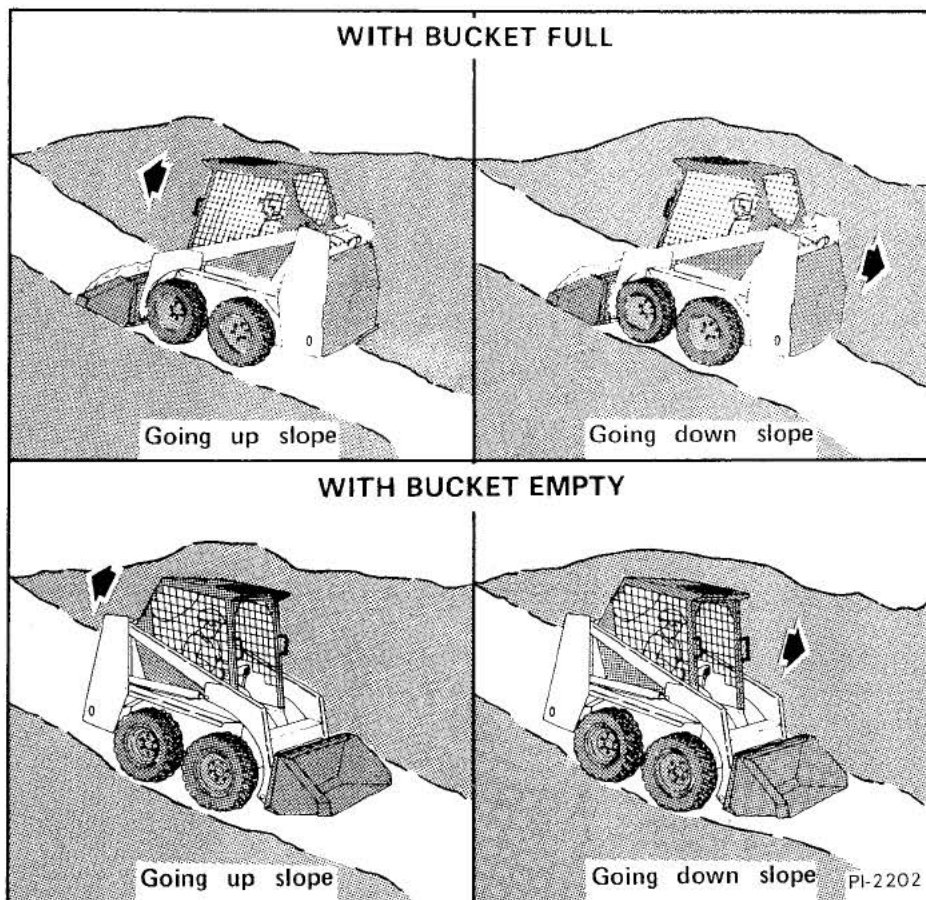

Fig. 29 Slope Conditions
7. Go up and down a slope with the heavy end of the loader toward the top of the slope. Go directly up and down a slope, not across a slope (Fig. 29).